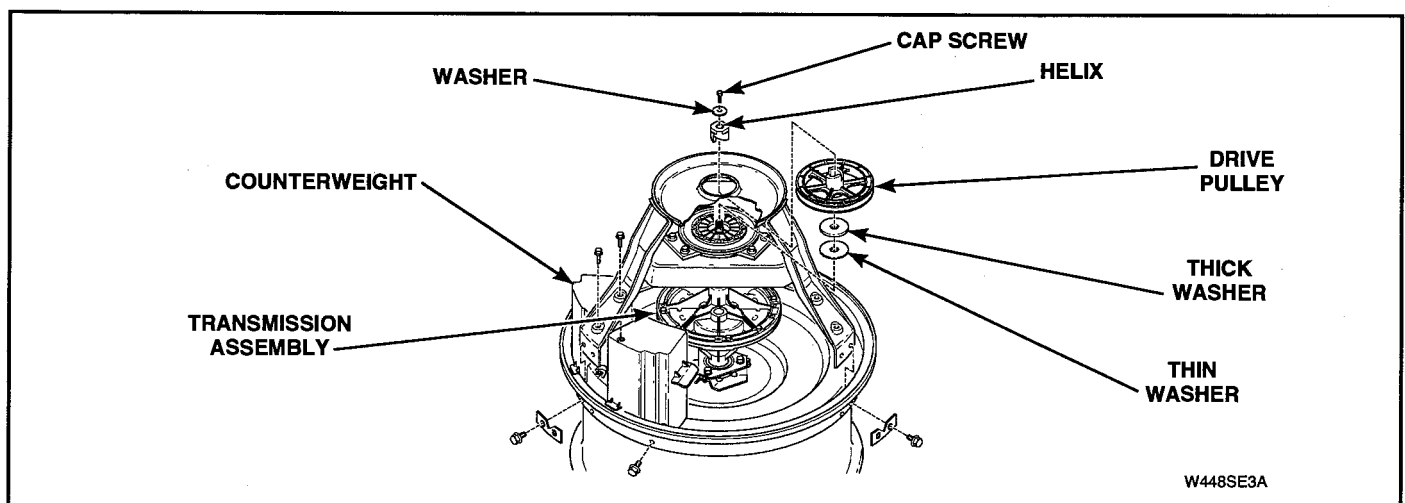
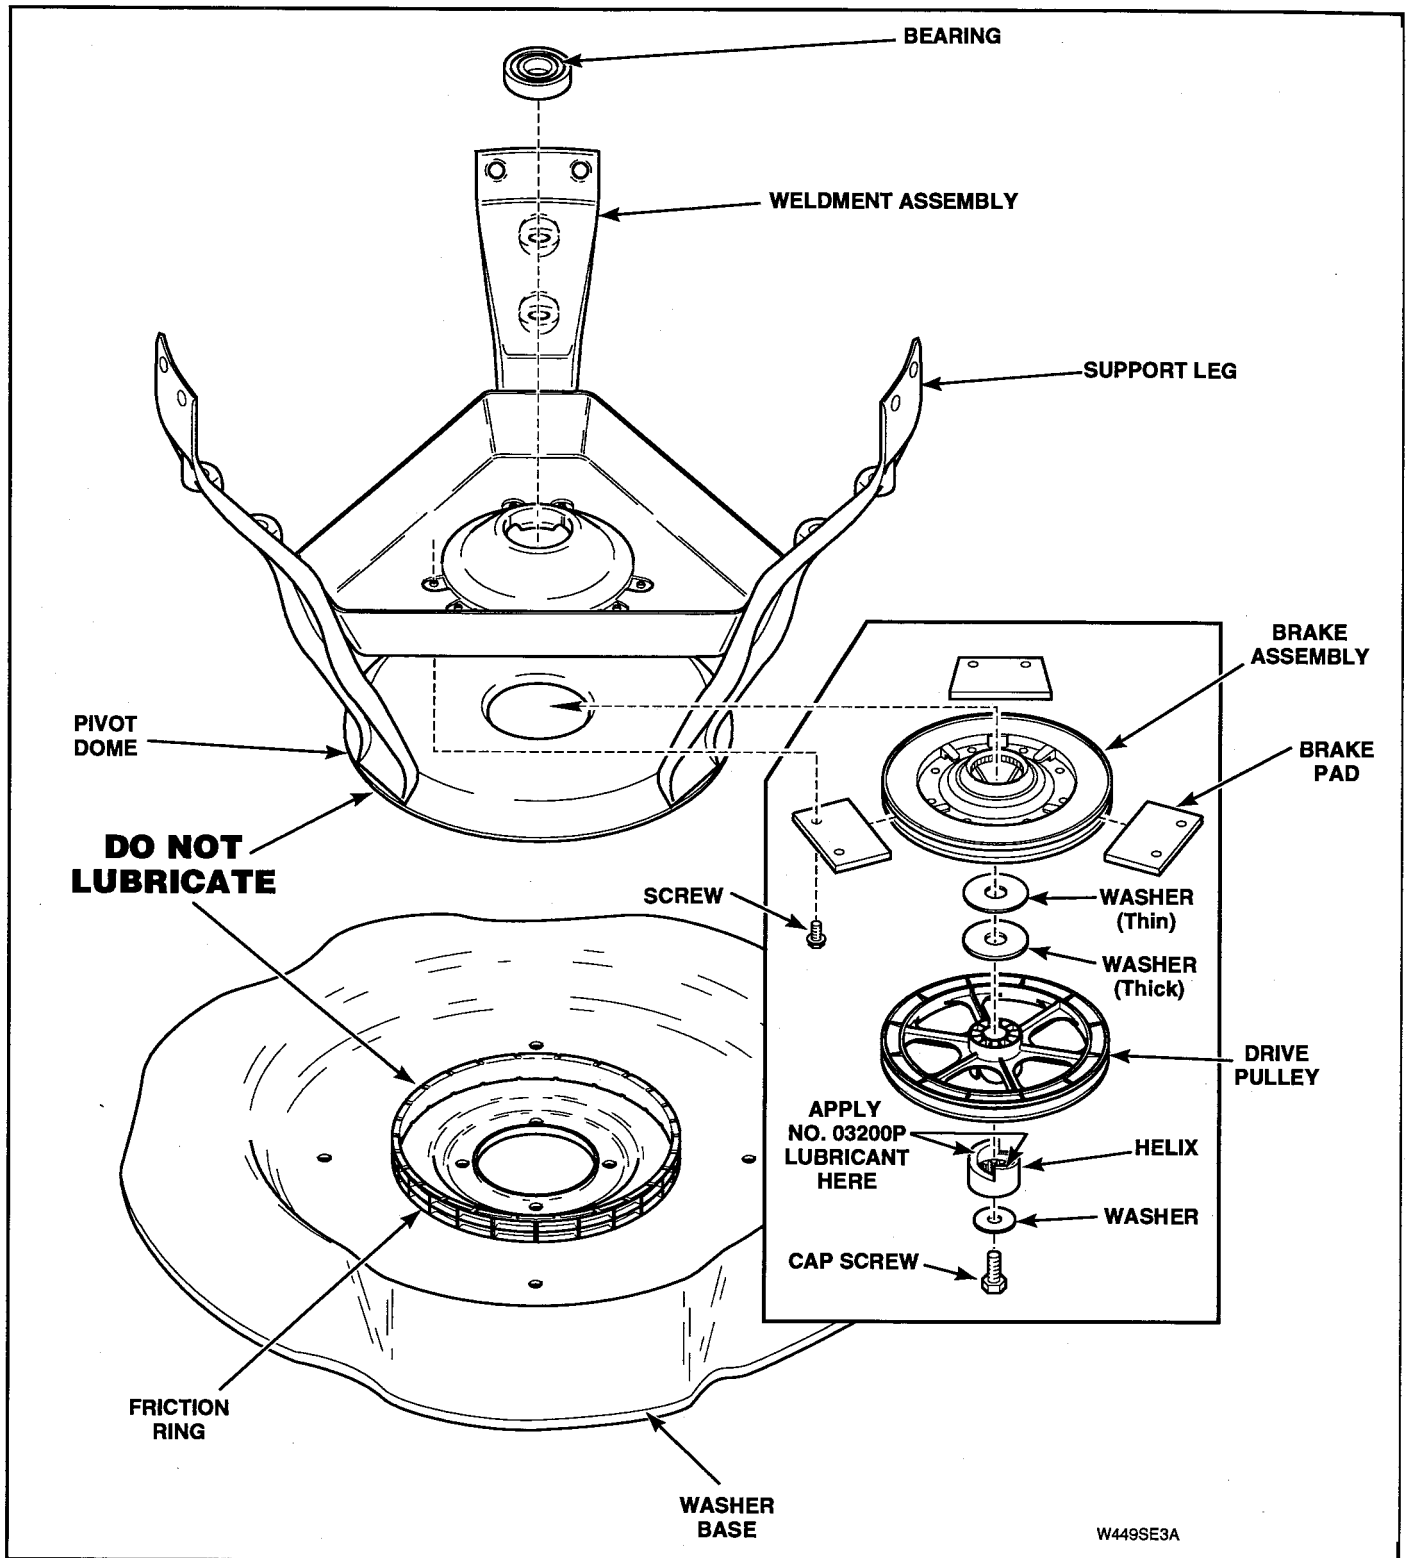

Figure 5-38
Figure 5-39
- m. Remove screw, washer and helix holding drive pulley to input shaft and transmission assembly. See Figure 5-38.
**NOTE:** When reinstalling pulley, place a small amount of No. 03200P Lubricant on top side of the drive pulley that will be contacting large flat washers. See Figure 5-38 for assembly sequence. Lubricate helix ramps and bore with a small amount of No. 03200P Lubricant. See Figure 5-39.
- o. Remove screws holding three brake pads and brake assembly to weldment assembly. See Figure 5-39. Then remove brake assembly and pads off bottom of weldment assembly.
**NOTE:** Refer to Figure 5-39 for assembly sequence.